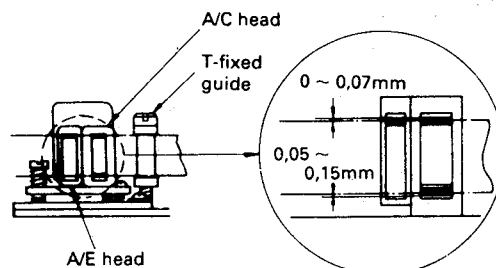

Figure 26.
- 3) Check that the AC head has a height and tilt with regard to the tape as shown in Fig. 26.